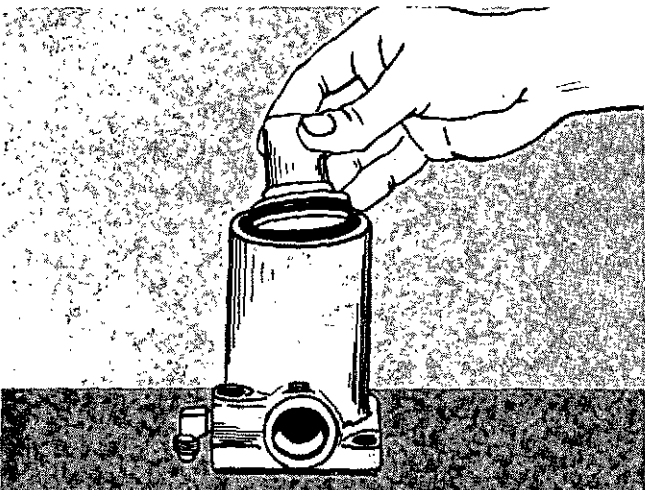

Fig. 4-31. Install The Plunger Into The Housing.
12. Install a new rectangular sealing ring to the actuator plunger. Install the plunger in the actuator housing, Fig. 4-31.